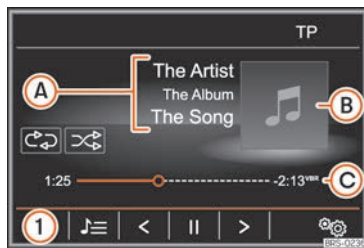

**Fig. 203** MEDIA main menu.
- Press the infotainment button **MEDIA** to open the *Radio* main menu»» **Fig. 203**.